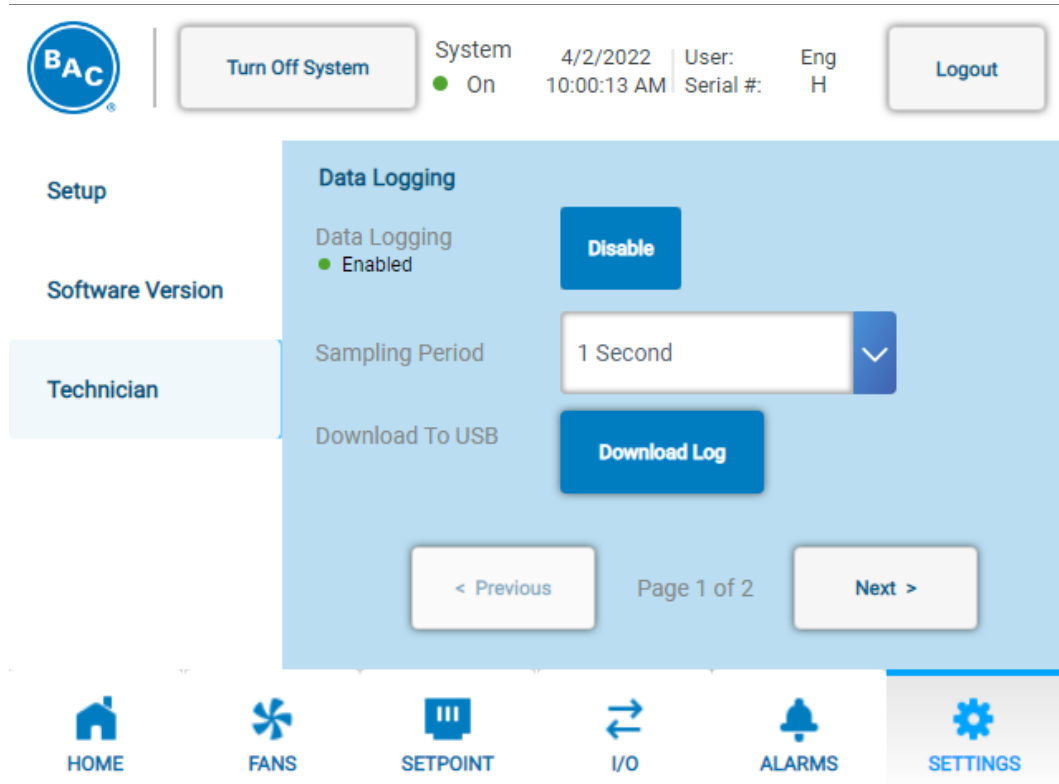
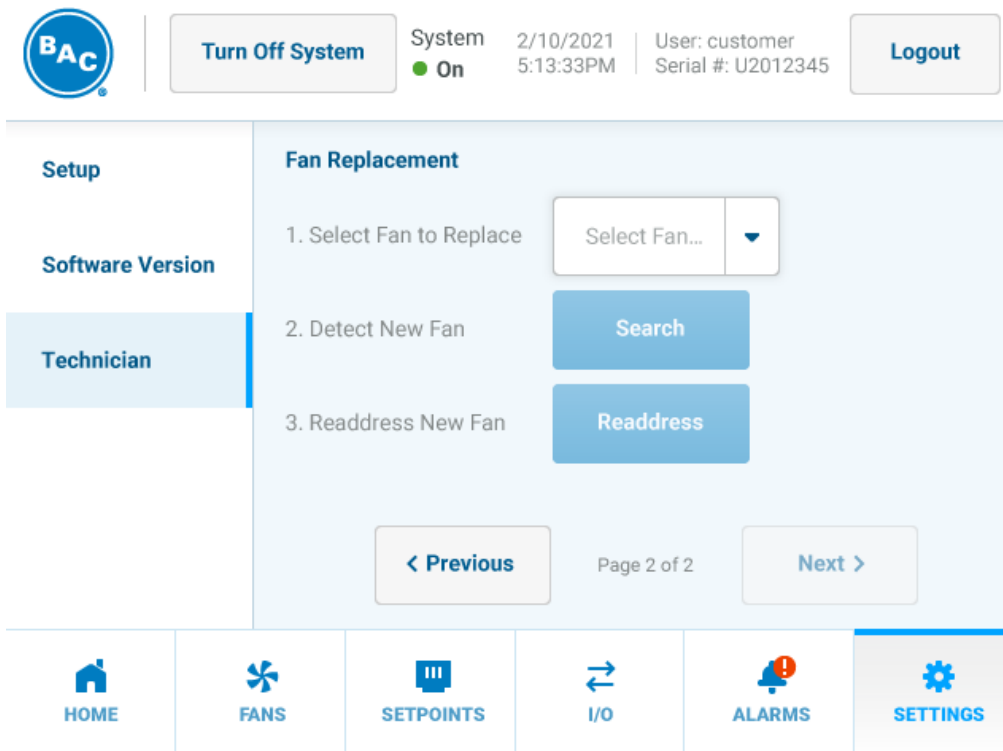

Figure 94. Settings Menu, Technician Page 1 of 2
Figure 95. Settings Menu, Technician Page 2 of 2
The Technician menu is only displayed and accessible with Technician access level. Refer to **Table 11. Access Levels and Passwords** on **Page 51**. The Technician menu is shown in **Figure 94** and **Figure 95** with parameters listed in **Table 37**.
Onboard data logging records and stores data listed in **Table 38** which can be loaded onto a portable USB storage device in a comma separated value (CSV) file. The sampling period is determined by the Sampling Period shown in **Figure 94** and listed in **Table 37**. This information can be used for troubleshooting or energy modeling purposes. Data logging can be enabled/disabled via the Technician menu shown in **Figure 94**. To retrieve data logging information:
2. Navigate to Settings menu, Technician Page 1 of 2 shown in **Figure 94**. Press “Download Log”. A loading bar will appear and display the current progress of the file downloads until complete.
2. Navigate to Settings menu, Technician Page 2 of 2 as shown in **Figure 95**.